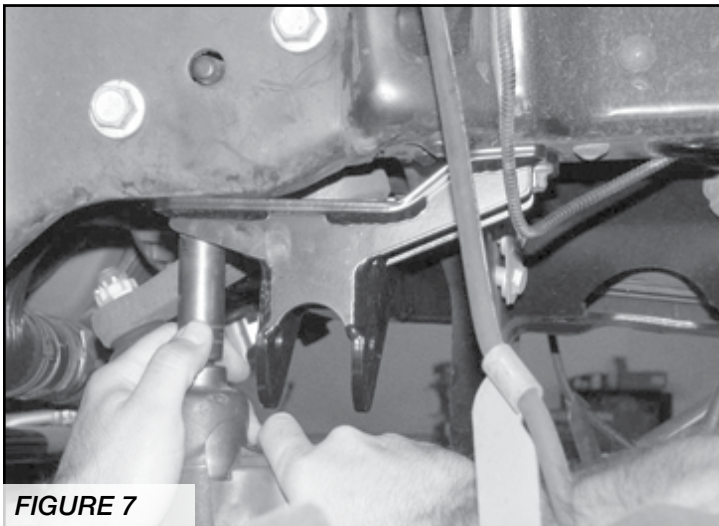

FIGURE 7
8. Locate FT30463BK Track Bar Frame Bracket for 2008-11 models or FT30497BK for 2005-07 models. Attach to the frame using the original hardware in the same position. Torque bolts to 110 ft-lbs. **DO NOT ATTACH THE TRAC BAR TO THE FRAME BRACKET AT THIS TIME.** **SEE FIGURE 7**